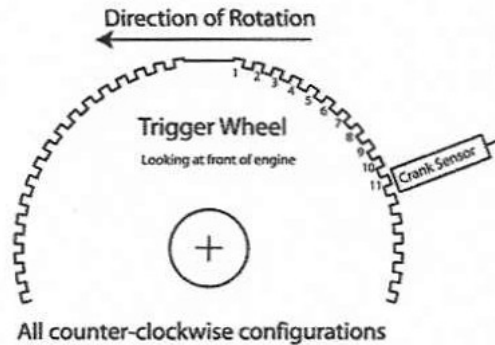

Figure 6: Crank Shaft Trigger Wheel Positioning
- i. Loosen the CSTW and rotate it until the alignment pin (remember the dowel/pop rivet assembly which is still in the pick-up holder) lines up with the hole in the CSTW. The alignment pin can be used to lock the CSTW position. **This should place the trailing edge of the 11th tooth past the two missing teeth** directly under the center of where the magnetic pick-up will go. Reference Figure 6 for sensor alignment and positioning. If this is not correct, return to step “d” or “e” (depending on your engine make) and repeat.